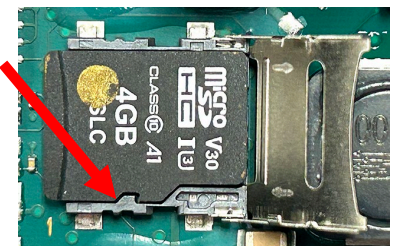

Figure 12
14. Carefully insert the Micro SD card into the slot, with the contacts facing down as shown. The tab should fit into the notch on the side of the Micro SD card (see Figure 12).